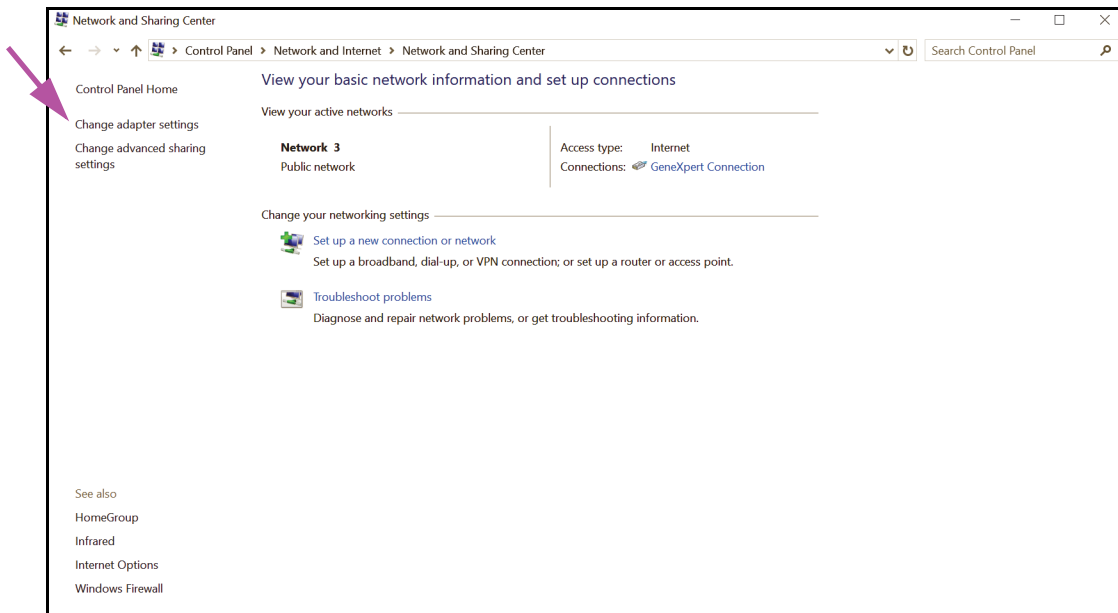

Figure 2-16. Network and Sharing Center Screen
4. Click **View network status and tasks**. The **Network and Sharing Center** screen appears. See Figure 2-16.